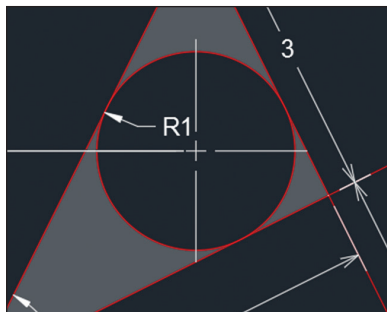

FIGURE 11.18 Adding a radius dimension
10. Select the circle and then click a point inside the circle to locate the radius value (see Figure 11.18). Press Enter to end the DIM command.